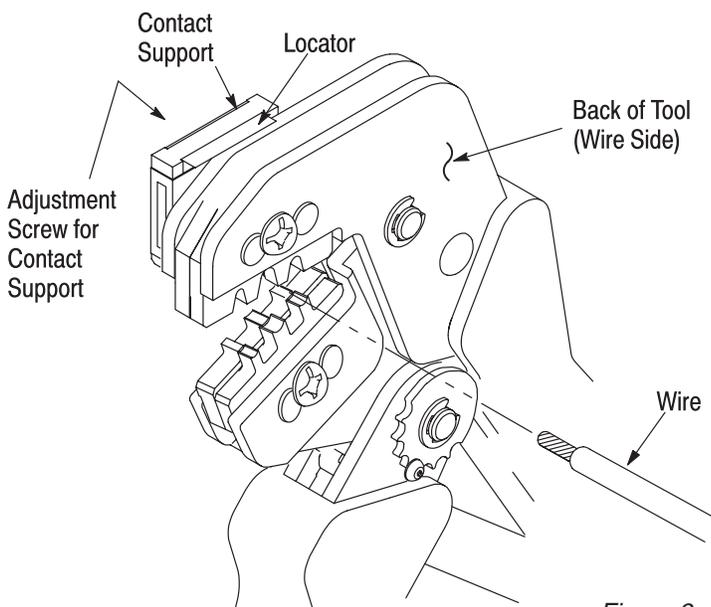

Figure 3
**4. CONTACT SUPPORT ADJUSTMENT** (Figure 3)
3. Position the contact so that the mating end of the contact is on the locator side of the tool, and so that the open “U” of the wire and insulation barrels must face the top of the tool. Place the contact up into the nest so that the movable locator drops into the slot in the contact. Refer to Figure 3. Butt the front end of the wire barrel against the movable locator.
Refer to the table in Figure 1 and select wire of the specified size and insulation diameter. Strip the wire to the length indicated in Figure 1, taking care not to nick or cut wire strands. Select an applicable contact and identify the appropriate crimp section according to the wire size markings on the tool. Refer to Figure 3 and proceed as follows:
5. Insert stripped wire into contact insulation and wire barrels until it is butted against the wire stop, as shown in Figure 3.
**NOTE** The crimped contact may stick in the crimping area, but the contact can be easily removed by pushing downward on the top of the locator (see Figure 3).